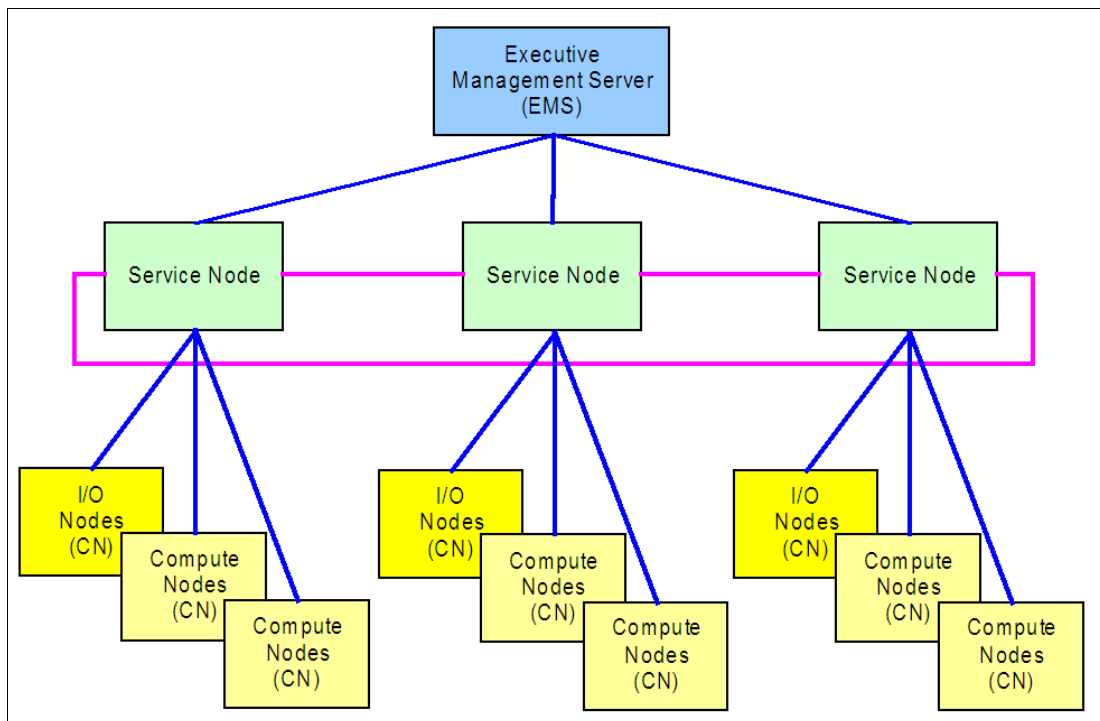

Figure 1-44 EMS hierarchy
Systems management throughout the cluster is a hierarchical structure (see Figure 1-44) to achieve the scaling and performance necessary for a large cluster size. All the compute and I/O nodes in a building block are initially booted via the HFI and managed by a dedicated server that is called a *service node* (SN) in the utility CECs.